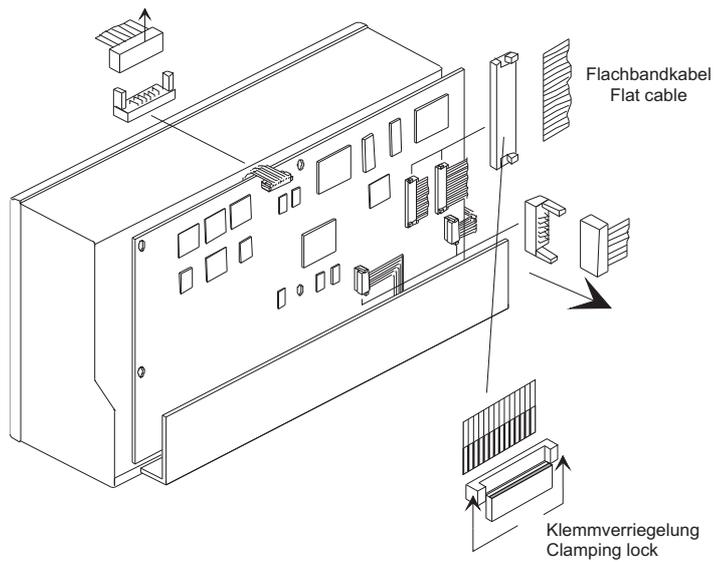

Fig. E 8-3: Loosen the flat cables
6. Carefully loose the lockers and take out flat cables. Take out all other flat cables as well (Fig. E 8-3). Asure not to damage any cable!